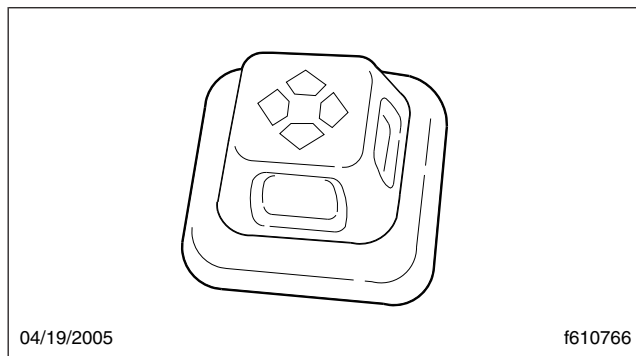

Fig. 9, Toggle Switch
13. Using the LBCU toggle switch, shown in **Fig. 9**, navigate through the menus as follows to the "Hardware/Software Version" screen.